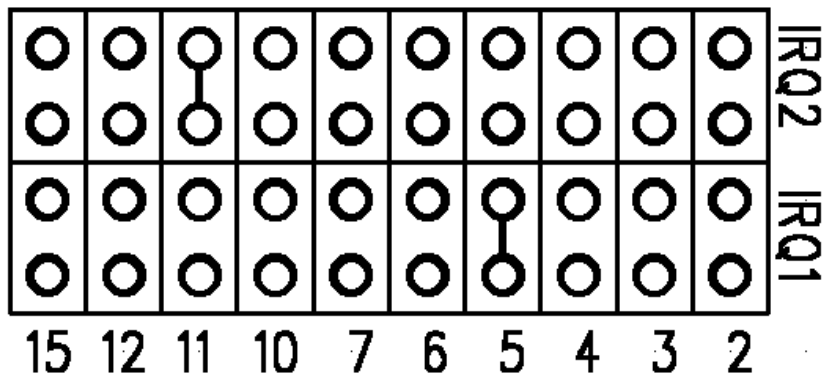

Fig. 2-3: Interrupt jumpers
- Fig. 2-3: Interrupt jumpers
The header connector, shown in Figure 2-3 below, lets you connect the onboard 82527 CAN controllers interrupt outputs to one of the interrupt channels available on the host XT/AT bus. If your board has no AT extension interrupts then IRQ 10-15 are not available. Both CAN-controllers must use different interrupts and therefore two headers are available. IRQ1 marks the Channel 1 interrupt and IRQ2 marks the interrupt for Channel 2.